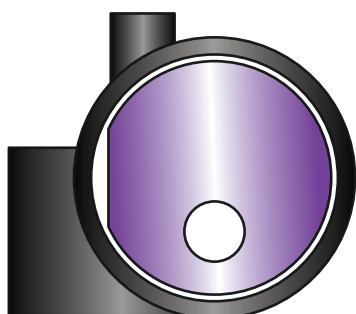

Figure 2
4. Insert the bushes into the mount with the offset hole at its lowest point as shown in Fig 2. The flat on the bush is to allow clearance on the mount.